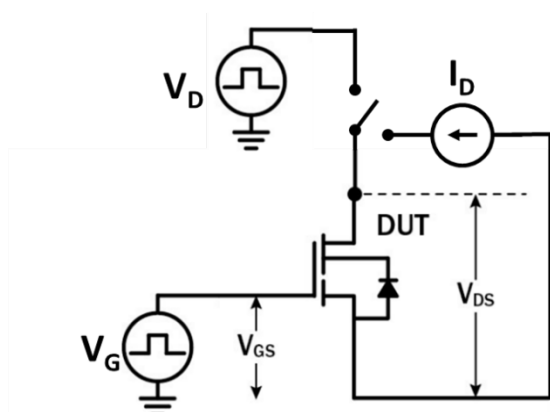
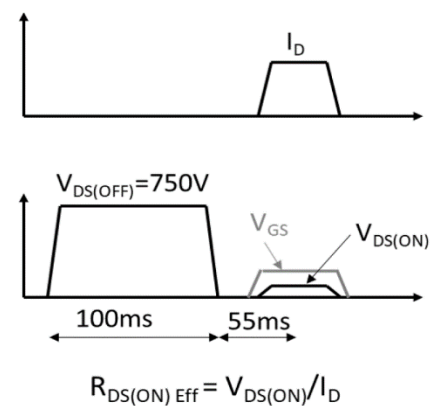

Figure 20. Dynamic $R_{DS(on)eff}$ Test Circuit
Figure 21. Dynamic $R_{DS(on)eff}$ Waveform
1. Dynamic $R_{DS(on)}$, 100% tested; see Figure 20 and Figure 21 for conditions.